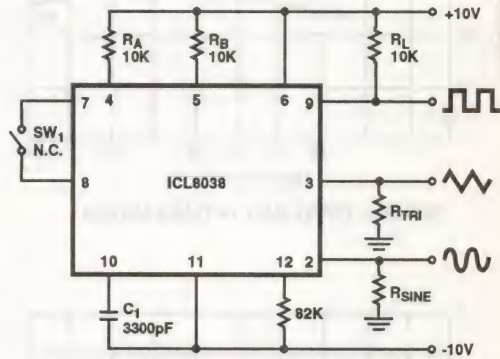

FIGURE 1.
- Figure 1, pins 7 and 8 connected,  $V_{SUPPLY} = \pm 10V$ . See Typical Curves for T.C. vs  $V_{SUPPLY}$ .